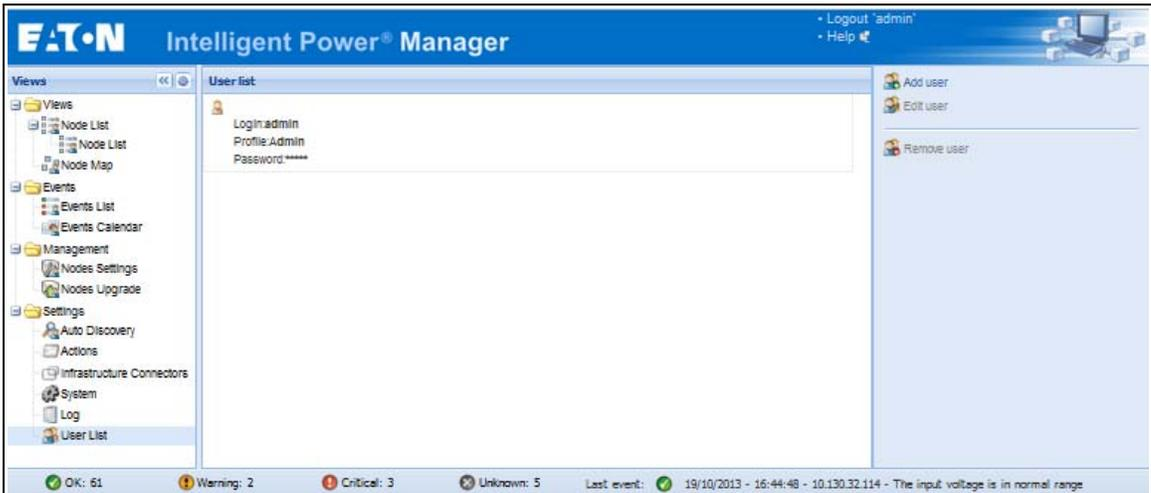

Figure 19. User List Page for User Account
1. From the left-side **Views** panel of the Eaton IPM main interface window, select the **Settings > User List** menu item. The User List page displays (see Figure 19).